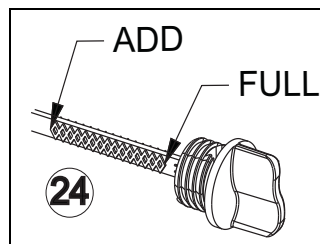

Figure 2-13. Oil Fill/Dipstick
3. Wipe dipstick clean (Figure 2-13).